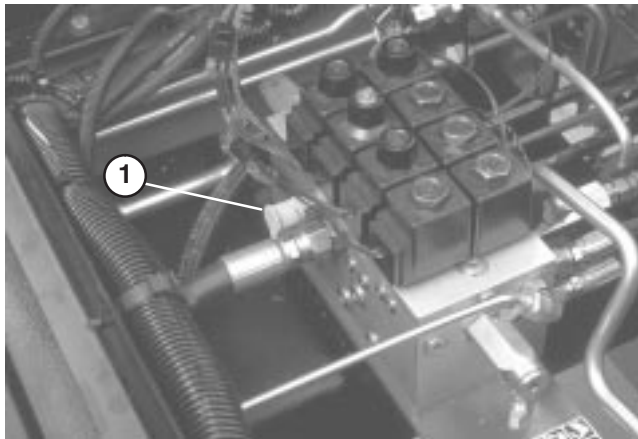

Figure 50
HYDRAULIC SYSTEM TEST PORTS (Fig. 50–52)
1. Test Port “A” (Fig. 50) is used to assist in trouble shooting the hydraulic circuit for the front cutting units and lift cylinders.